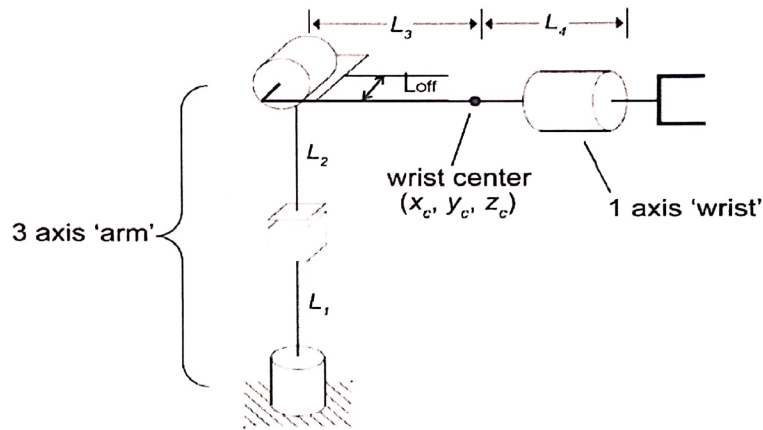

Figure 1.0: A 4 DOF Robot
- b. Using Denavit-Hartenberg convention, write out the forward kinematics homogenous transformation representation of the robotic system illustrated in Figure 1.0. [10 marks]